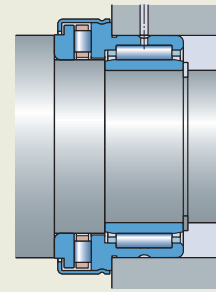

Fig. 33
- can be mounted back-to-back (fig. 33) for short shafts and where changes in length due to thermal expansion are relatively minor